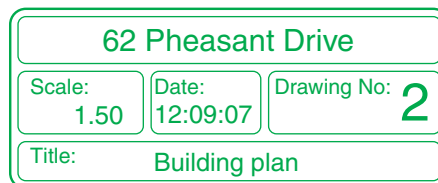

Fig. 11.1 The title block from Drawing number 2 of the sheet set
1. Construct a template **62 Pheasant Drive.dwt** based upon the **acadisco.dwt** template, but including a border and a title block. Save the template in a **Layout1** format. An example of the title block from one of the drawings constructed in this template is shown in Fig. 11.1.